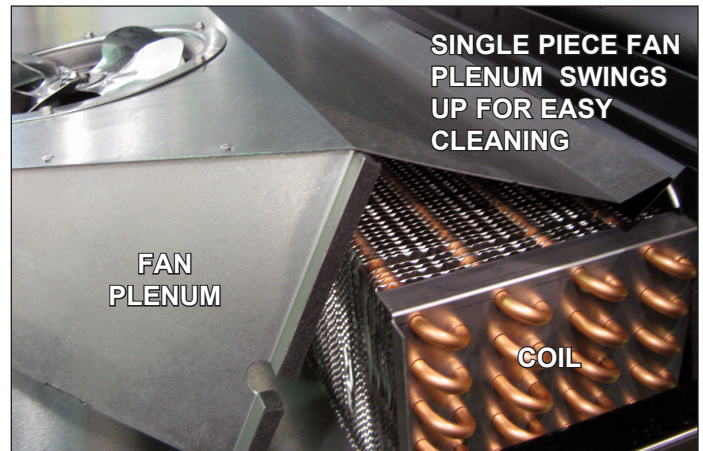

Fig. 22 Single-piece fan plenum and coil cover
- Lift the fan plenum to gain access to the coil for cleaning and maintenance (Fig. 22).